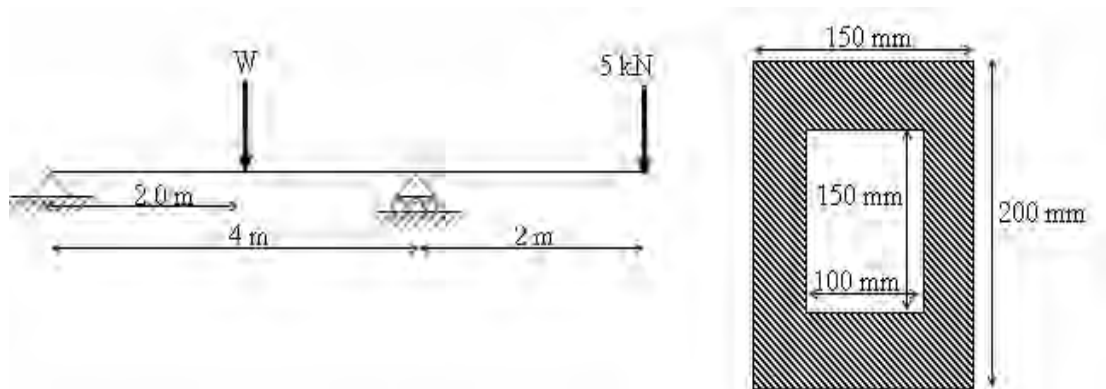

Figure 5:
5. A simply supported box-beam with an overhang supports the loads shown in the figure 5. Determine the maximum value of load W at which the shearing stress and the flexural stress will not exceed their allowable values 2.5 N/mm^2 and 25 N/mm^2 , respectively. [15]